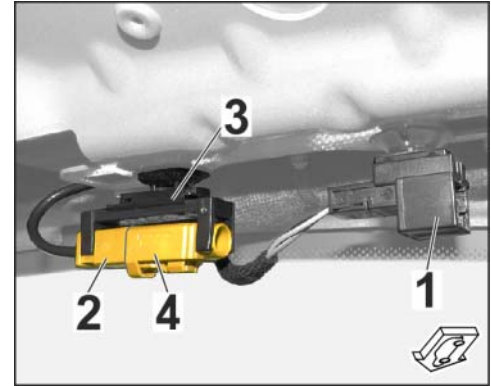

Figure 20
3.5.3 Remove video signal plug connection from holder and remove dummy plug. ⇒ *Figure 20*